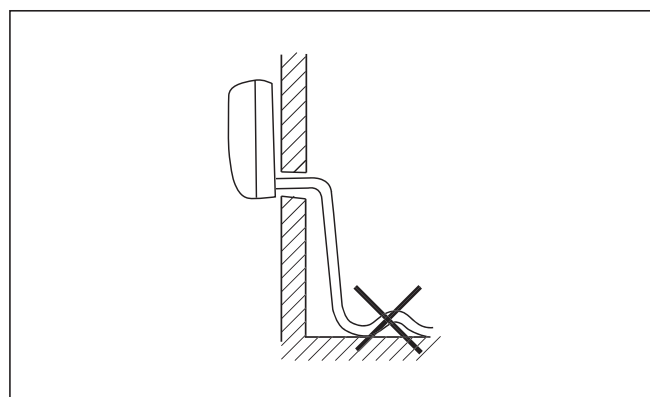

Fig. 9.4 Avoid kinking the pipe.
- Do not allow the drain line to be crimped or flattened which could reduce the flow of water from the indoor unit (see Figure 9.4).